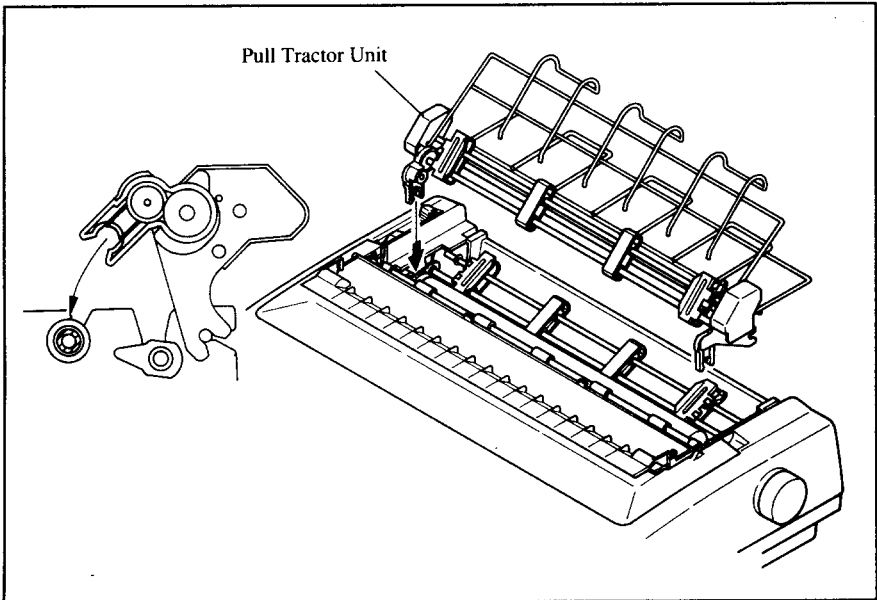

Figure 3-11. Mount the Pull Tractor Unit onto the printer.
6. Secure the Pull Tractor Unit firmly by lowering it into position, as shown in Figure 3-11.